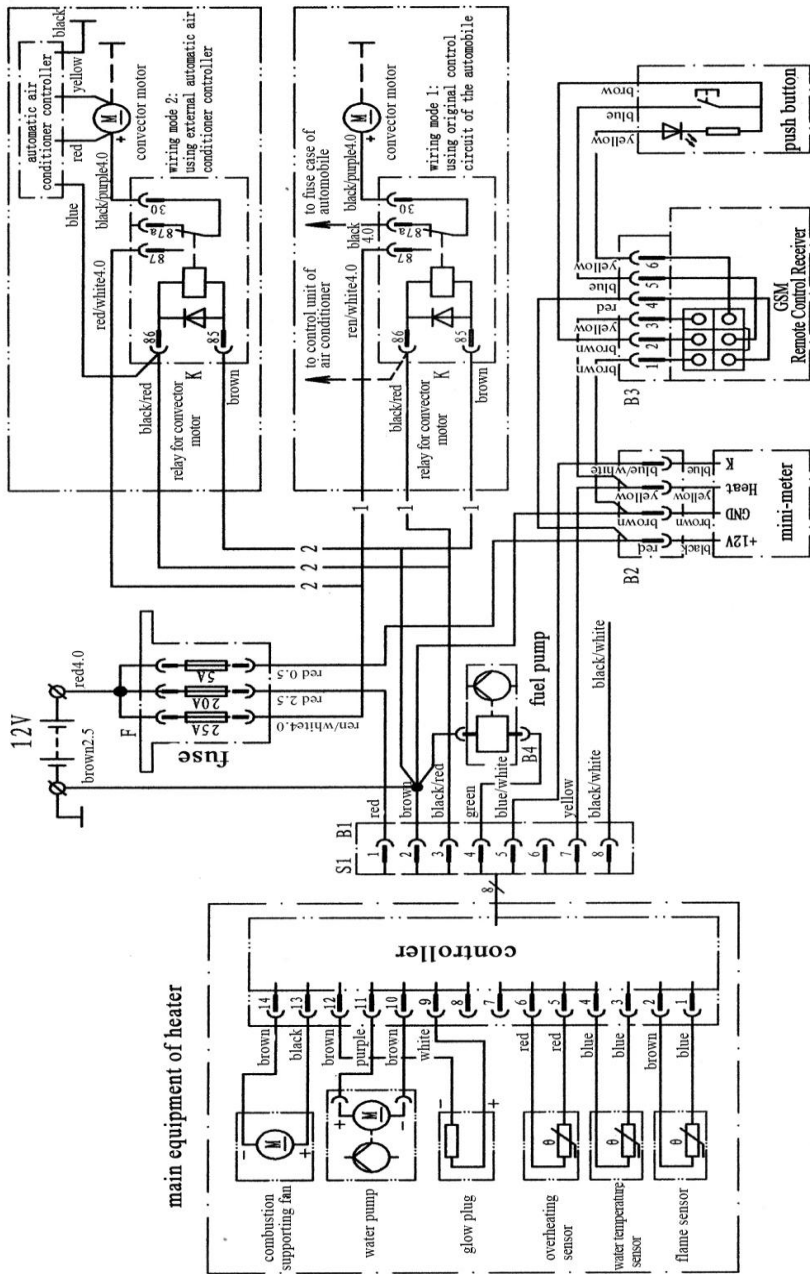
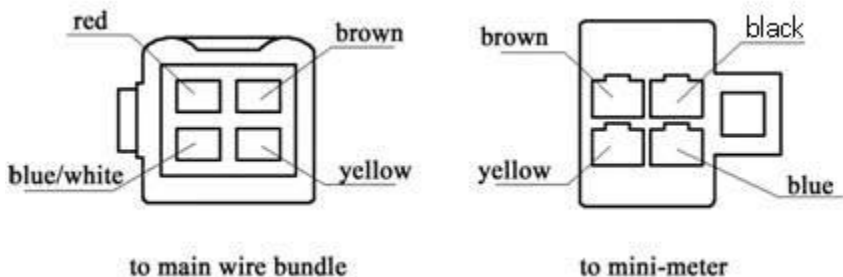

Fig. 11
Fig. 12
4.6.5 For those components whose connecting wires may need to go through small holes (such as mini-meter and remote control receiver), you need to pass the wires through the holes before the connection is made to the connector. For such reason, the terminals of these components are not plugged in the sockets in the factory. You have to plug in the terminals according to Fig. 11. You have to keep correct relations for them. Connector for the remote control receiver: Plug connection shall be made according to wire color and serial number of terminals on the sockets. Connector for the mini-meter: Plug connection shall be made according to Fig. 12.